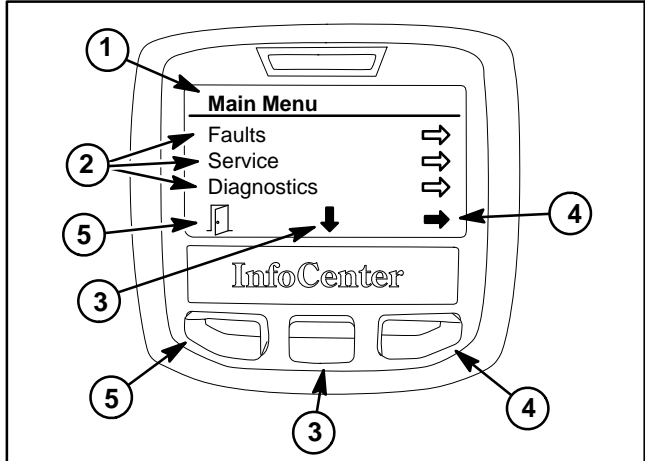

Figure 17
The main menu screen can be accessed from the InfoCenter main information or splash screen by pressing and releasing the menu/back button (left button) on the display. Once to the main menu screen (Fig. 17), navigation to the five (5) different menu items can occur. Pressing the move to menu item button (center button) allows a different menu item to be highlighted. Selection of the highlighted item is completed by pressing the choose item button (right button).